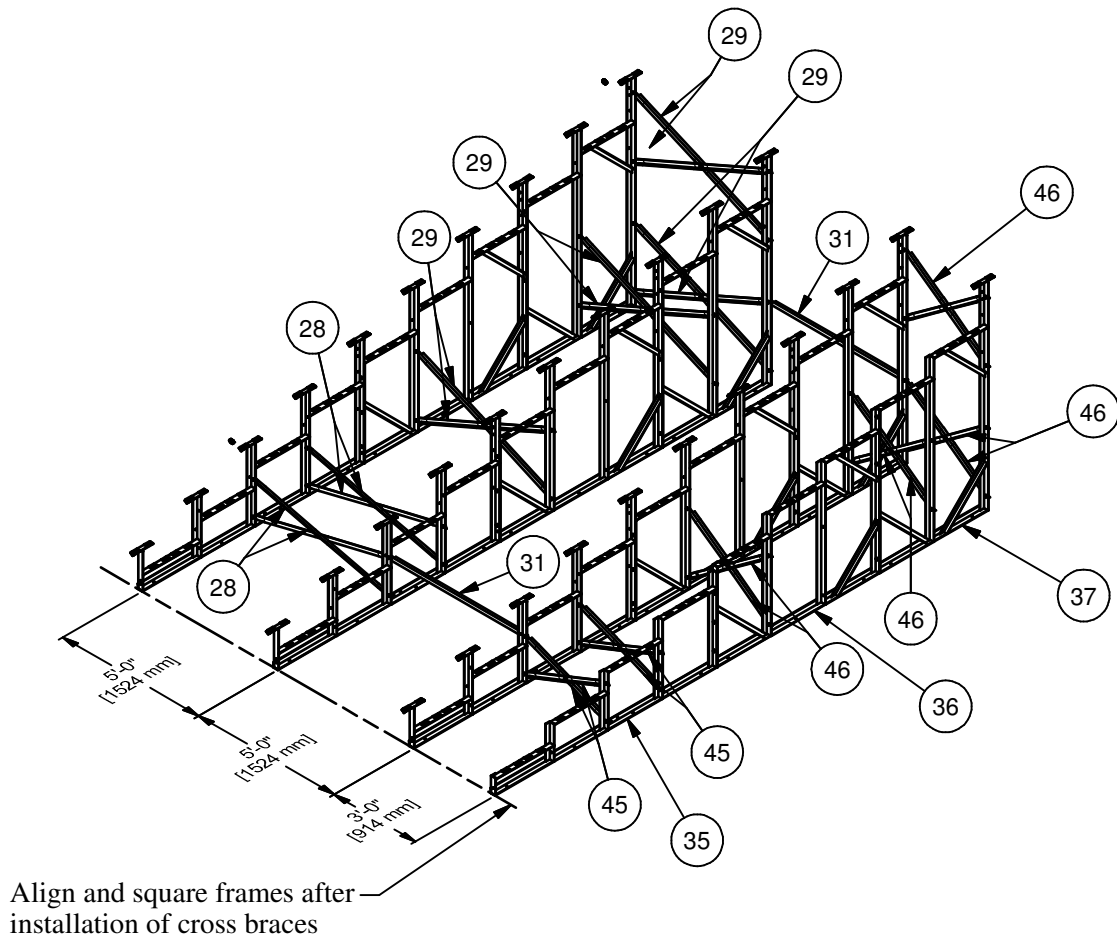
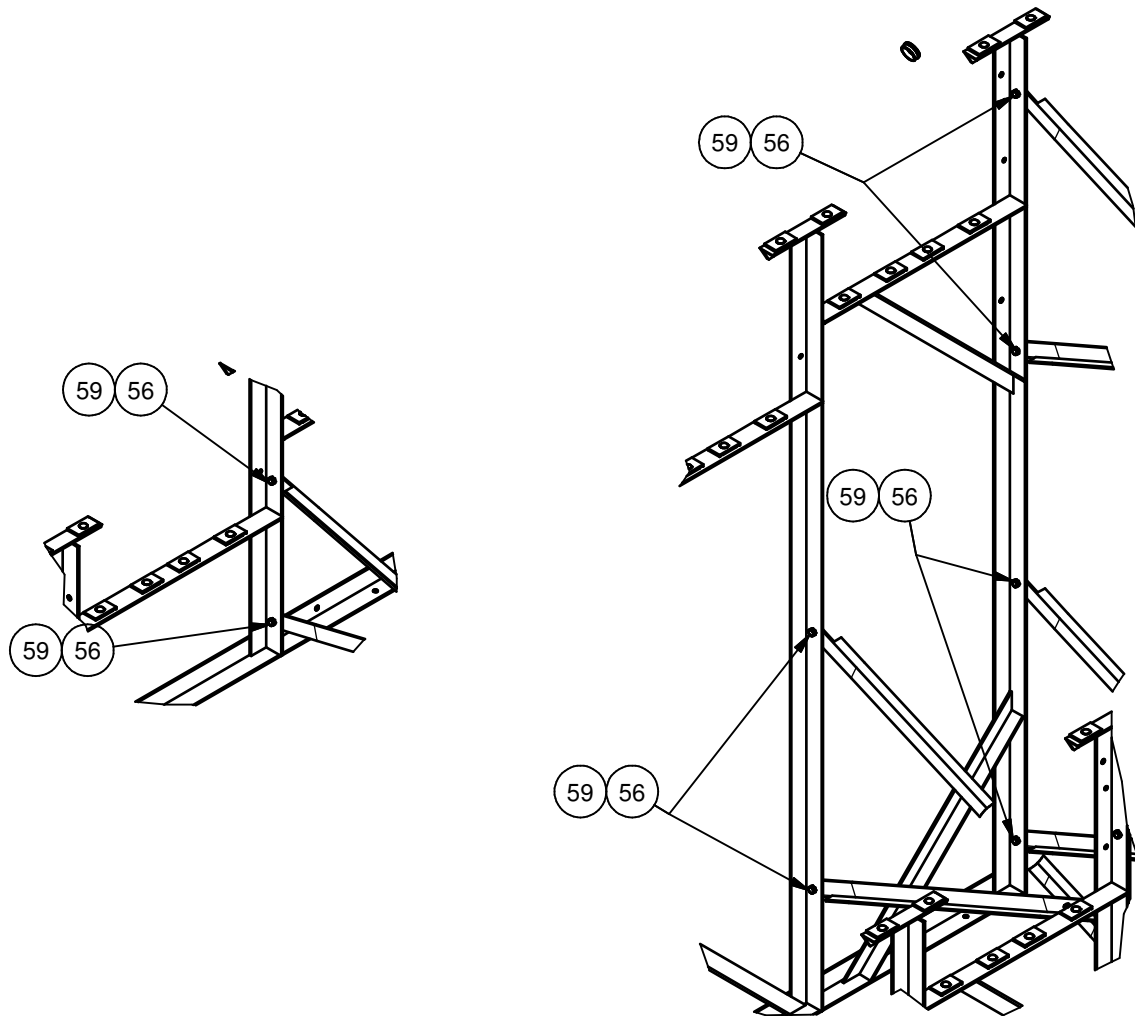

Figure 3
Figure 4
3. Lay out the Frame weldments approximately 5' apart. Refer to figure 3 for proper frame spacing. Install the brace sub-assemblies from step 2 using the 3/8" x 1" hex bolts and 3/8" whizlock nuts as shown in Figure 4. Cross braces are connected to the frames at verticals 3,4,6,9, and 10. Refer to figure 3 for item number and page 2 for brace angle length. NOTE: Cross braces are located in the end bays. Straight spacer braces are located in center bay at row 3 and row 10 only. After all braces are installed, square the frame and make sure the front of the frame is in line.